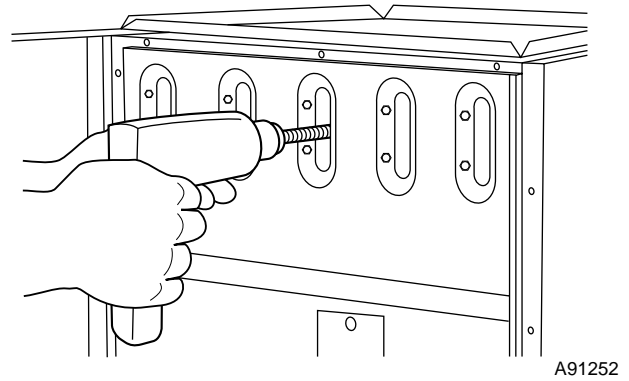

Fig. 54—Cleaning Heat Exchanger Cell
- (2.) Insert brush end of cable into the outlet opening of cell and slowly rotate with drill. **DO NOT** force cable. Gradually insert cable into upper pass of cell. (See Fig. 54.)